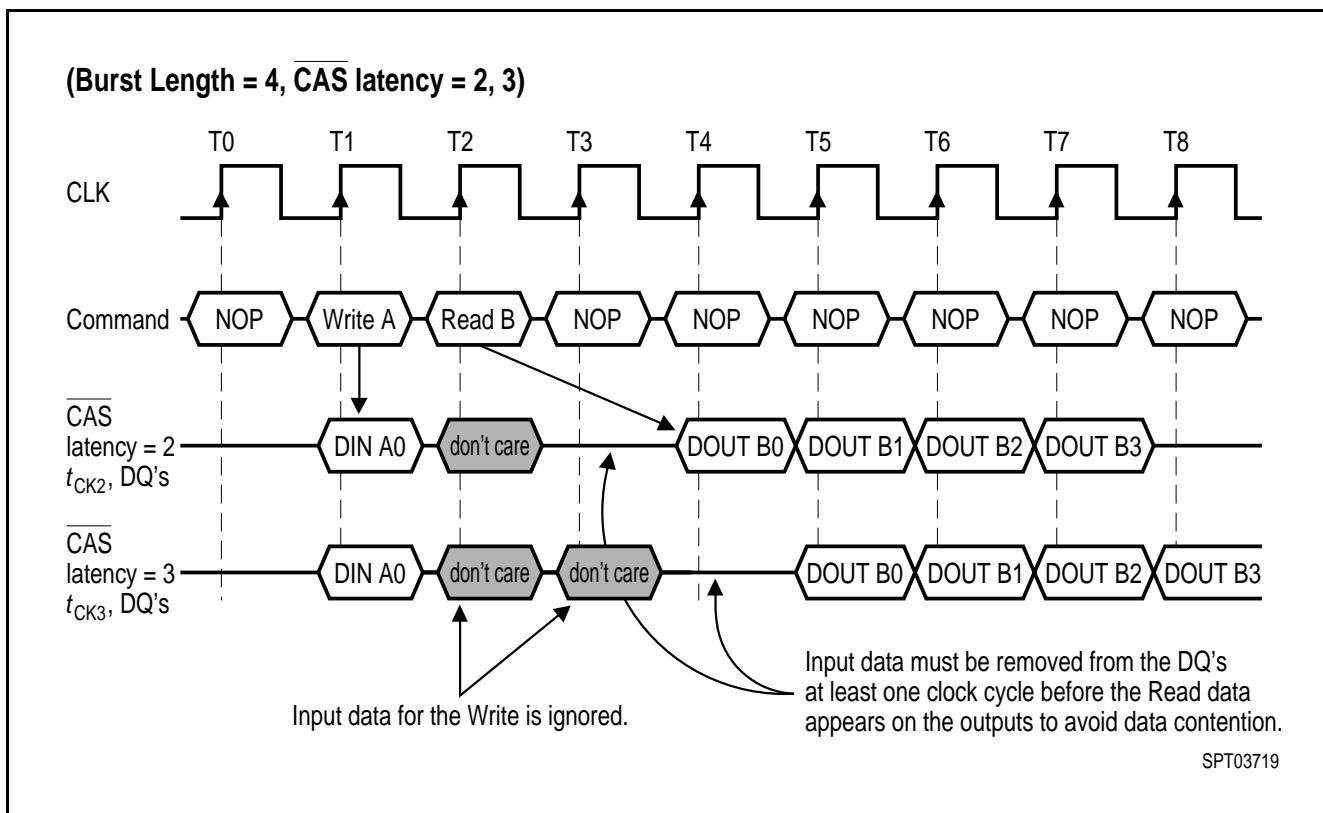

Figure 13 Write Interrupted by a Read
- Figure 13 Write Interrupted by Read